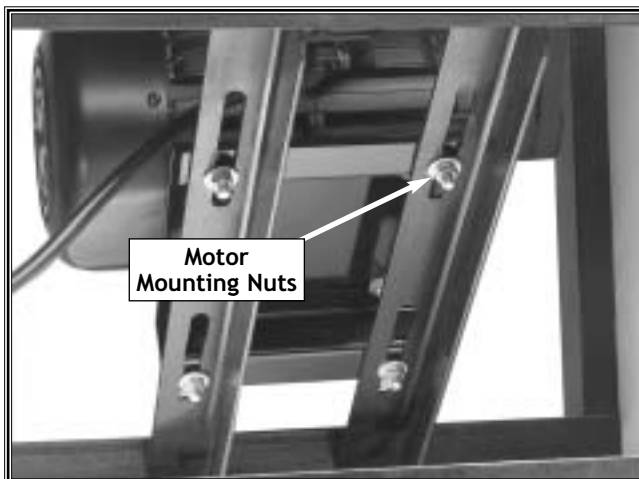

Figure 38. Motor mounting nuts.
5. Loosen the motor mounting nuts, and slide the motor on the mounting plate to adjust the belt. See Figure 38.